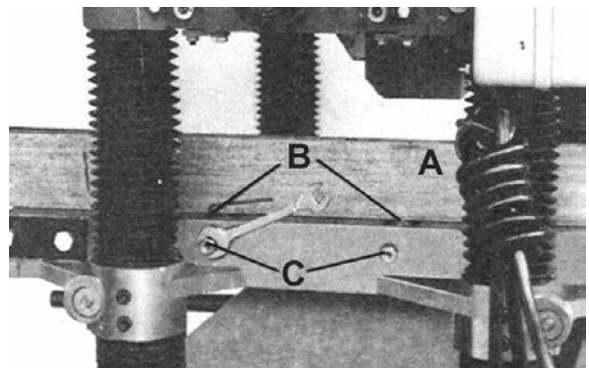

FIGURE 11
2. Lay a straight edge (A) Fig.11 across both rollers, loosen the screws (B) Fig.11, and turn the eccentric shafts (C) to raise or lower the table rollers, when the proper height is obtained tighten screws (B). The table rollers must be adjusted on the opposite end of the table in the same manner.